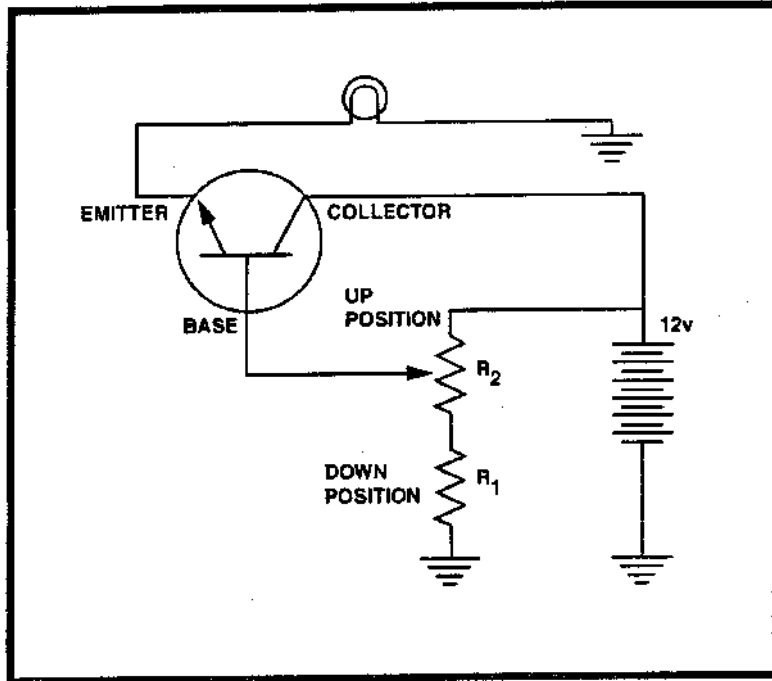

Fig. 9.14. Transistorized Circuit.
85. (Refer to figure 9.14) If an open occurs at R_1 , the light
86. (Refer to figure 9.14) If R_2 sticks in the up position, the light will